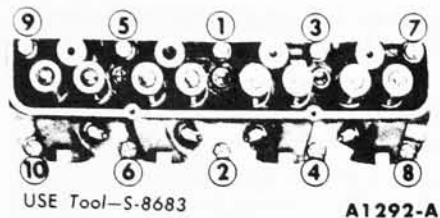

FIG. 35—Cylinder Head Bolt Tightening Sequence
5. Install the cylinder head bolts. The cylinder head bolts are tightened in three progressive steps. Torque all the bolts in sequence (Fig. 35) to 70 ft-lbs, then torque them to 80 ft-lbs. Finally, torque them to 90 ft-lbs. After the cylinder head bolts have been torqued to specifications, the bolts should not be disturbed.